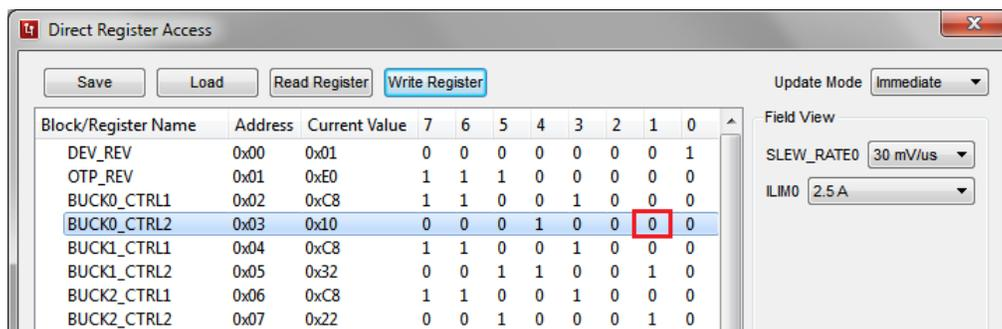

Figure 6. Flipping single Bit By Double-clicking
2. Flipping the single bit of the register by double-clicking it (Figure 6)